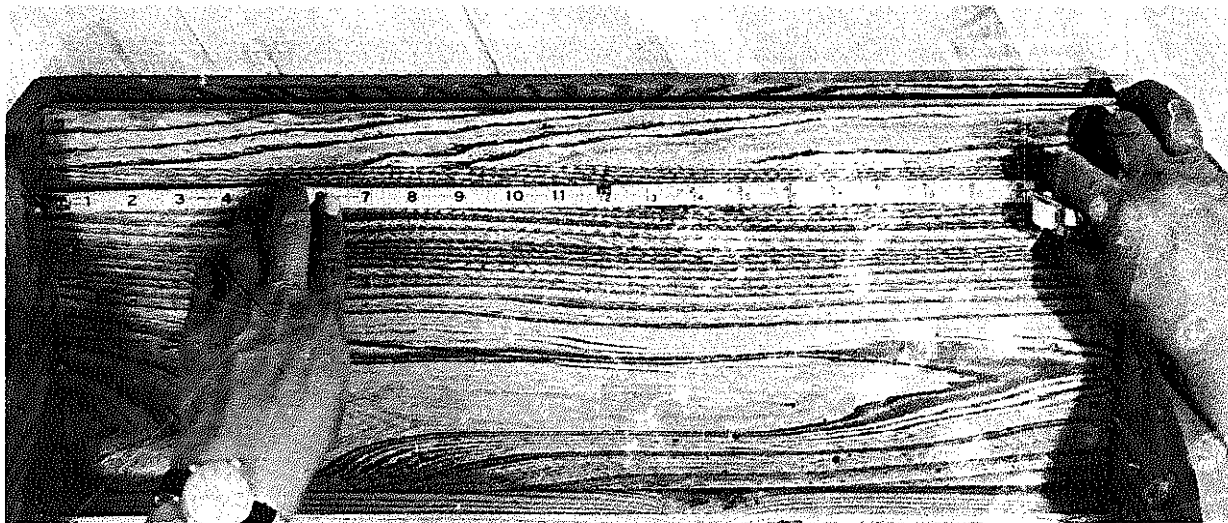

Fig. 2-9 Taking an inside measurement
2. Hold the tape at the starting position. Continue extending it until the outer edge of the case butts against the opposite side of the opening. See figure 2-9.